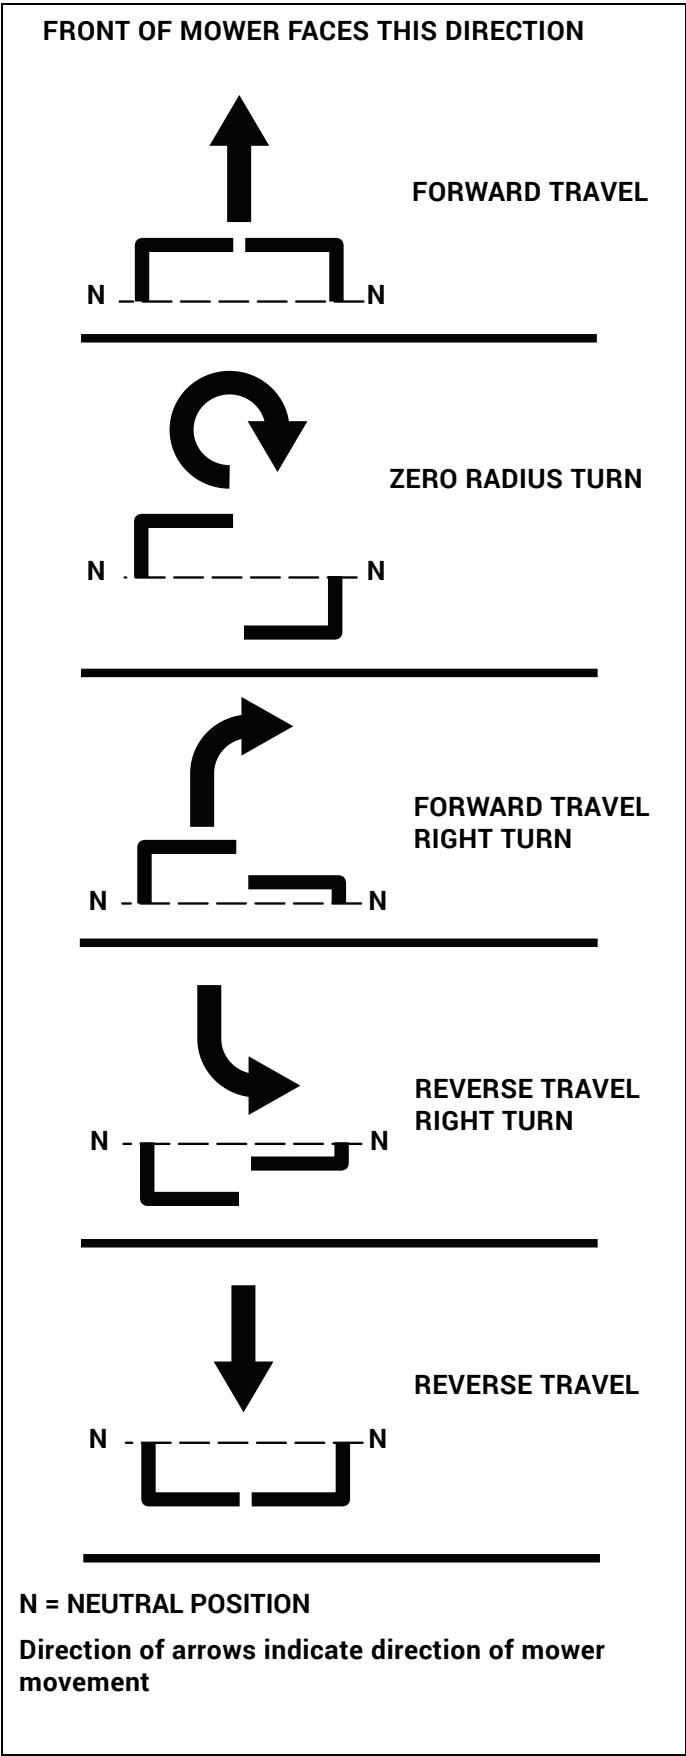

Figure 3-13
**To go forward,** push the steering control levers forward an equal distance. Figure 3-13
**To go in reverse,** pull the steering control levers rearward an equal distance. Figure 3-13
**To turn right**, move the left steering control lever farther forward from neutral than the right steering control lever. Figure 3-13
**Zero radius turn**, move one steering control lever forward and the other steering control lever back of neutral. This allows the drive wheels to counter-rotate. Figure 3-13